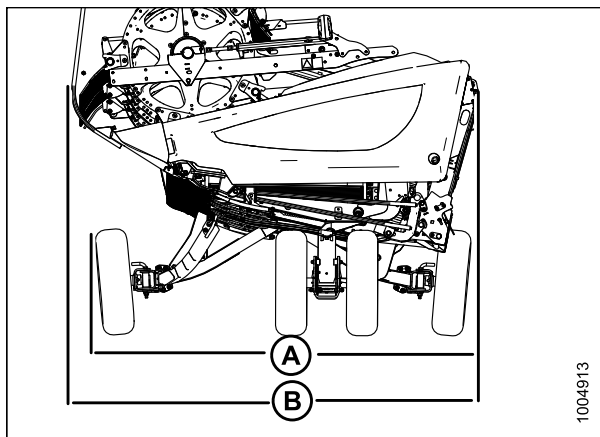

Figure 3.1: Header Width
1. Refer to Figure 3.1: *Header Width*, page 31.